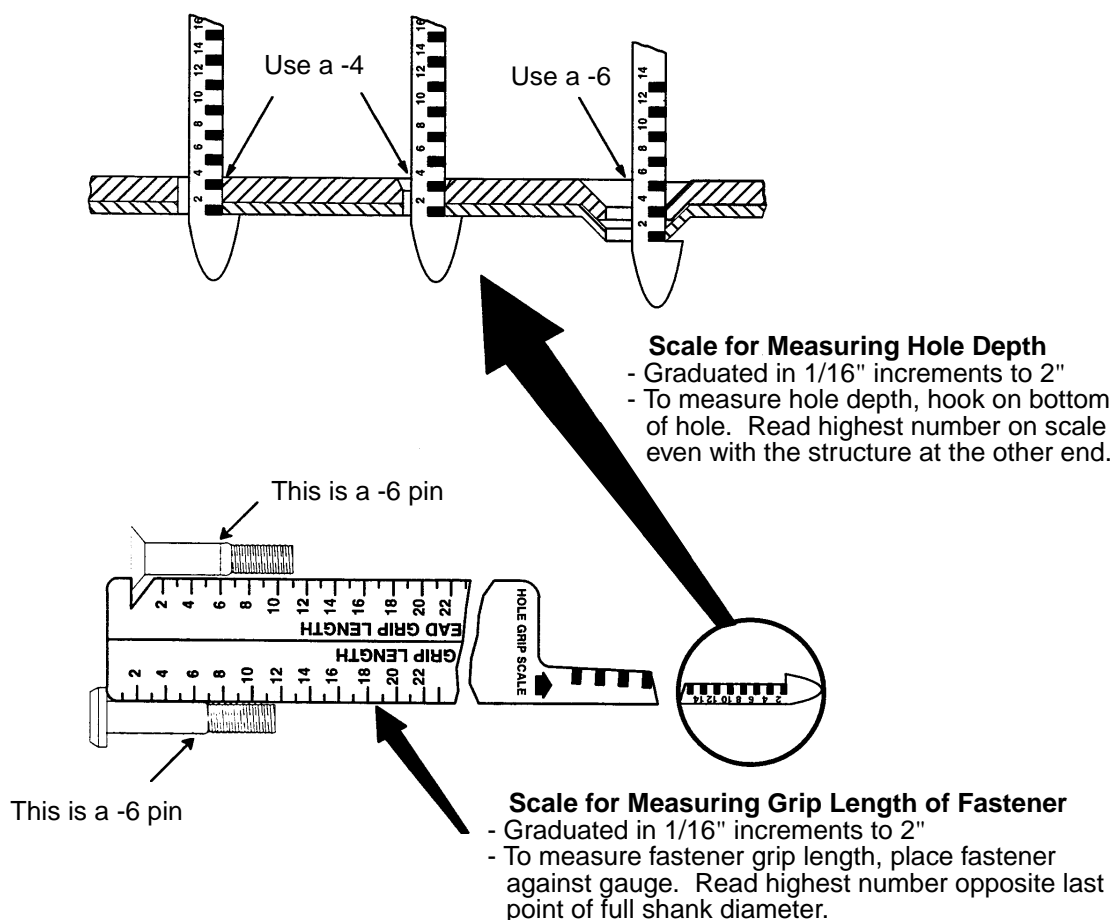

Figure 5 - Grip Scale (Hi-Shear #2-612)
- 5.4.3 The hole depth number shown on the grip scale corresponds to the Hi-Lok/Hi-Tigue pin grip length dash number. Always read to the next higher number as shown in Figure 5 (i.e., if the reading is past the **end** of the -3 marking, then use a -4 fastener). If a tapered sheet condition exists, use the grip length indicated for the thickest section. If the fastener assembly specifies an MS21042 or MS21043 nut or Hi-Lok/Hi-Tigue collar, use a pin with a dash number as read on the grip scale. If the fastener assembly specifies a DSC 203 or DSC 145 self-aligning nut/washer assembly, use a pin with the next longer dash number than that read on the grip scale. For example, if the scale reads a -7 pin length, use a -8 pin length.
- 5.4.4 If the head markings of pins do not show the grip dash number, check the grip length of Hi-Lok/Hi-Tigue pins using the grip scale as shown in Figure 5. Refer to Table 7 for a listing of the grip length ranges for each grip dash number.